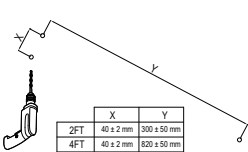

Figure 1
- Step1. Choose the corresponding installation size according to the size of the product (Figure 1);